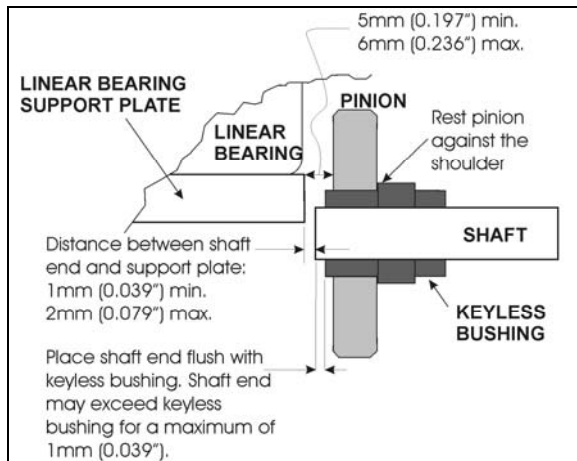

FIGURE 11: PINION AND KEYLESS BUSHING POSITIONING
3. Properly position the shaft end in relation to the linear bearing support plate (see FIGURE 11) and then tighten the locking collars to maintain the shaft in that position.
4. Position pinion and keyless bushing as shown on FIGURE 11 and tighten the keyless bushing as described in paragraph 5.4.